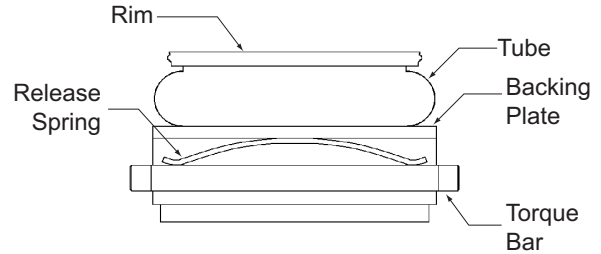

Figure 16
- 4.7.5 Place a torque bar in each mating hole in the side plate, slide a friction shoe assembly onto each torque bar and carefully tap a release spring (51VC1600, 60VC1600 and 76VC1600 elements have two release springs in each cavity) into place. Make sure the spring is positioned on the side of the torque bar opposite the friction lining. Also, the spring must contact the torque bar at two points, not one. See **Figure 16**.